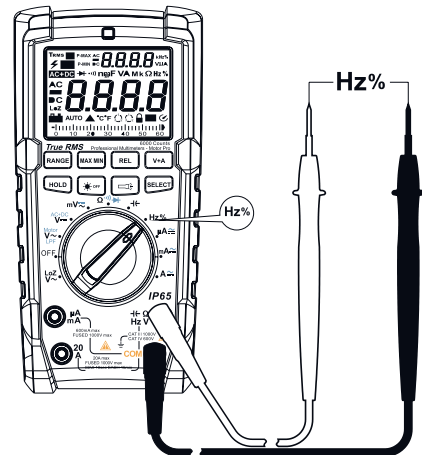

Figure 6
9. Frequency/Duty Ratio Measurement (See Figure 6).